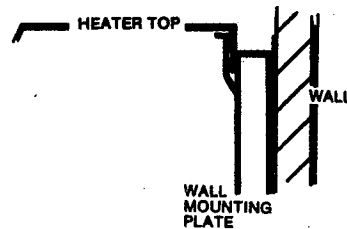

FIG. 5. WALL HANGING
Step 5. Hang the heater on the upper mounting plate. Make sure the back lip on the heater top is properly located over the top edge of the mounting plate. (Fig. 5)